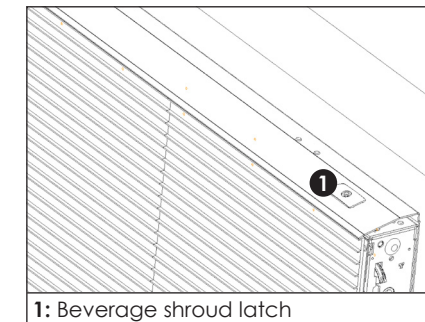
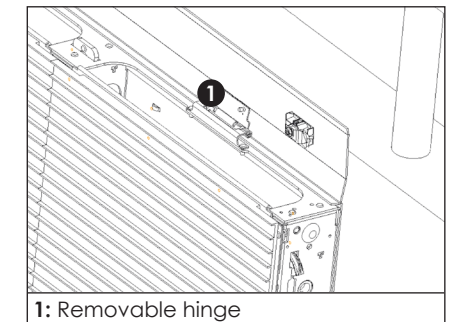

Figure 29: Remove Beverage Shroud
Figure 30: Remove Beverage Shroud
2. Release the beverage shroud security latches with a 5/16" hex security bit (Daktronics part number TH-1170). Leave the beverage shroud in a flipped-up position or remove it by rotating it up and unhooking the spring-loaded hinge pins. Refer to **Figure 29** and **Figure 30**.